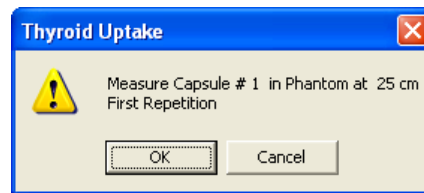

Figure 7-22
- a. Before starting a measurement, a pop-up screen prompting you to make the measurement similar to Figure 7-22 will appear. To cancel the measurement, click the  button on the pop-up screen.